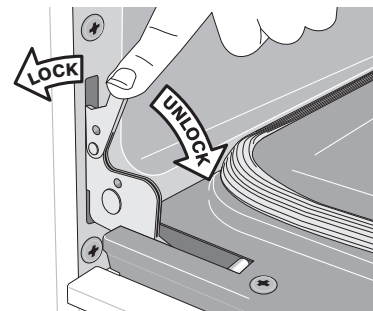

Figure 44: Door hinge locks
2. Pull the door hinge locks on both left and right door hinges down from the oven frame completely towards the oven door (See Figure 44). A tool such as a small flat-blade screwdriver may be required.
4. Push the door hinge locks up towards and into the oven frame on both left and right oven door hinges to the locked position (See Figure 44).